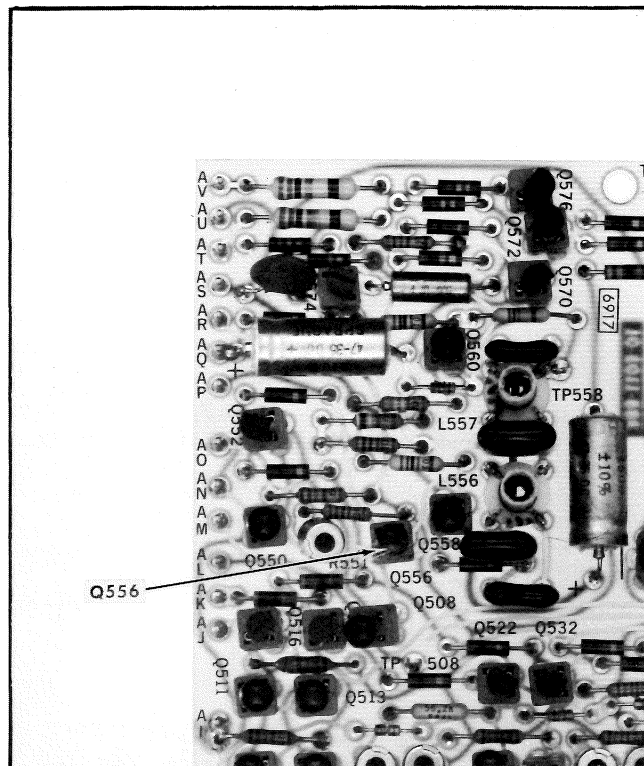

Fig. 5-51. Staircase board component location.
- o. Remove Q556 (see Fig. 5-51) from the Type R141A Staircase board.